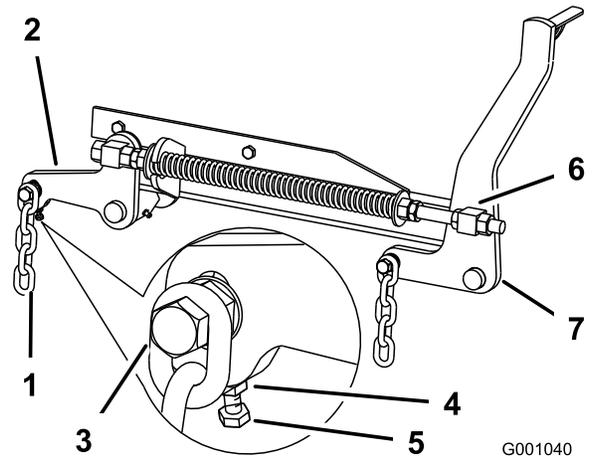

Figure 84
8. If the measurements at positions **B** or **C** are not correct, loosen the bolt attaching the rear chain to the rear-support arm (Figure 84).
8. Loosen the jam nut under the rear-support arm and adjust the adjustment bolt to get a measurement of 80 to 83 mm (3-1/8 to 3-1/4 inches); refer to Figure 84.
7. Loosen the front swivel jam nuts, at the front of the right and left swivels, approximately 13 mm (1/2 inch) (Figure 84).
8. Adjust the lift nuts on both the left and the right side of the machine to achieve 6 to 10 mm (1/4 to 3/8 inch) lower in front at **A** than in the rear at **B** (Figure 84).